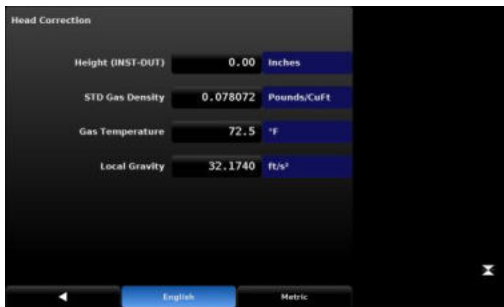

Figure 7-45 Head Correction Screen english units
The Setup [Settings] / [Applications] / [Head Correction] screen is the place to enter parameters that affect the offset that occurs when the device is being calibrated and located at a different level (elevation) compared to the sensor inside of the CPC8000-H. Touching any of the active buttons in this screen will activate the number key pad. Each of the four rows in “Figure 7-45 Head Correction Screen” represent a different parameter in the head correction calculation. In the [Height (INST-DUT)] row, the level of the Device Under Test (DUT) should be subtracted from the instrument reference point (INST) and entered. The gas density used within the calibration system, the gas temperature, and the local gravity should be entered in the subsequent fields. The default height is zero (0) indicating that there is no head correction applied. [English] or [Metric] units can be chosen by pressing the related button.